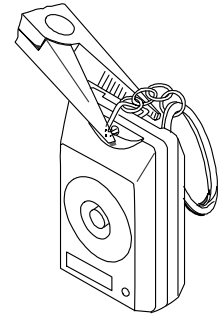

Figure 4. Key-ring Installation
- Slip the key-ring triangle through the last link of the key-ring chain and insert the triangle into the hole on the upper edge of the MCT-201 (Fig. 4).